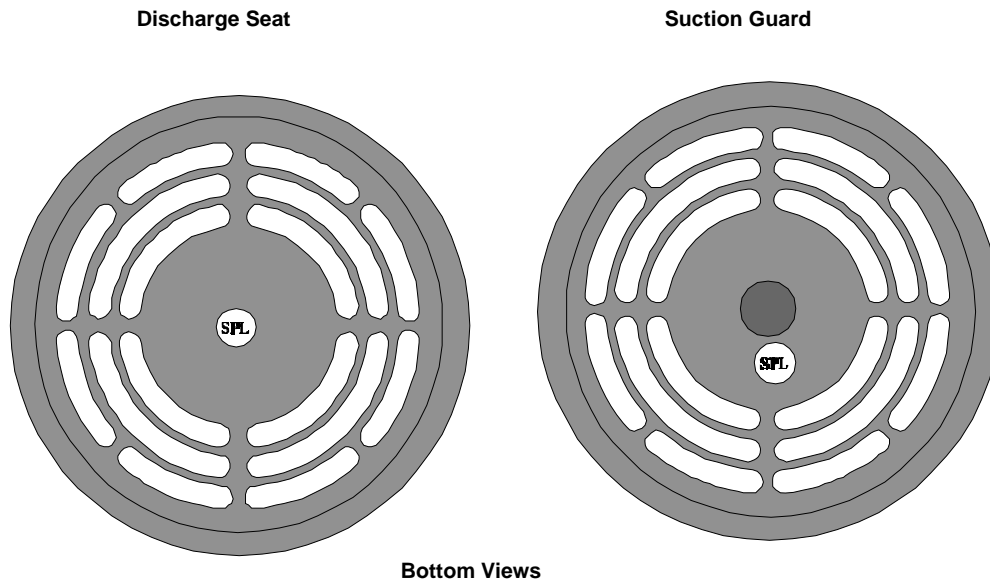

FIGURE 1-4 SPIRALOCK THREADED VALVE ASSEMBLY - MARKED SPL
2. 12 Point Cap Screws in Valve Assemblies with Spirallock Threads and marked SPL (see Figure 1-4) are lubricated, both threads and seating surfaces, with a petroleum type lubricant only.